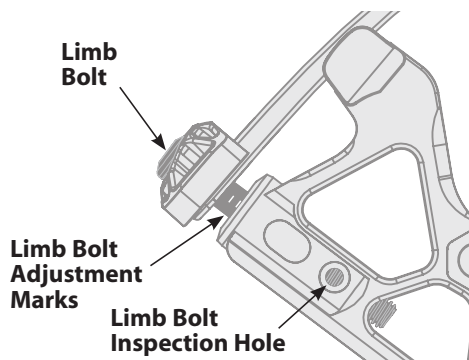

Figure 4: Draw Weight Adjustment
Draw weight on these models can be adjusted from 70 pounds to 30 pounds. The procedure is as follows (see Fig. 4):
1. Before adjusting limb bolts, note setting on limb bolt adjustment marks for future reference (See Figure 4).